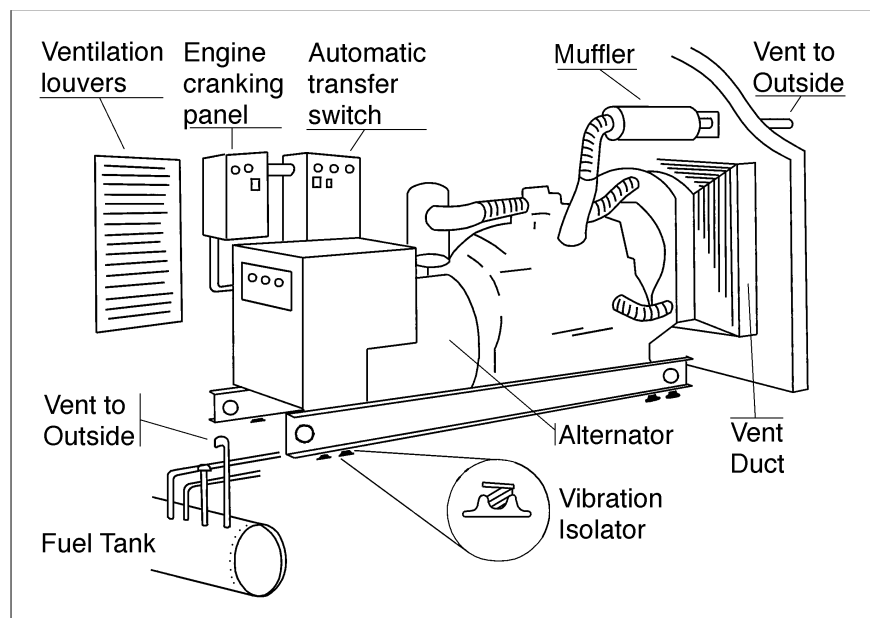

Figure 1. Sketch of a typical standby power unit.
Gasoline, liquid propane (LP) gas and diesel engines are available to power these units. LP fuels generally burn cleaner than gasoline. This promotes longer engine life and reduces frequency of service. Gasoline tends to form a varnish in the system during storage, which may make starting difficult. Except for very large engines, diesel units cost more initially than gasoline engines of comparable capacity. However, operating and maintenance costs are lower for diesel engines. A typical standby power unit is shown in Figure 1.